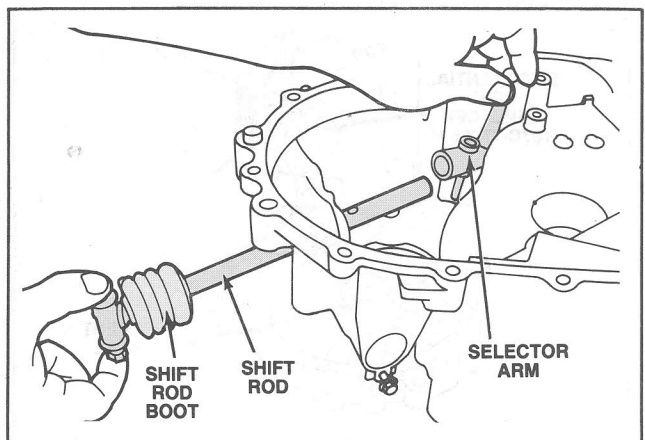

Figure 55 Shift Rod/Selector Arm Removal
2. Remove the selector arm from the input shift rail. (Figure 55).
3. Remove the input shift rail from the case. (Figure 55).